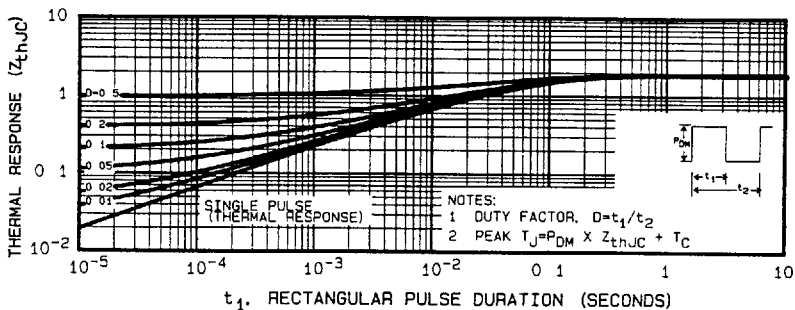

FIGURE 5. MAXIMUM EFFECTIVE TRANSIENT THERMAL IMPEDANCE, JUNCTION-TO-CASE vs PULSE DURATION
- Repetitive rating: Pulse width limited by maximum junction temperature. See Transient Thermal Impedance Curve (Figure 5).
3. Repetitive Rating: Pulse width limited by max. junction temperature. See Transient Thermal Impedance Curve (Figure 5)